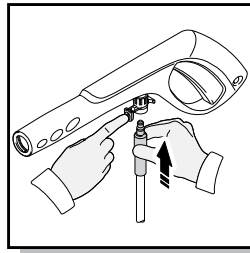

Fig. 6
- Connect the other end of the high pressure hose to the spray gun by inserting the brass metal tip of the high pressure hose into the fitting just ahead of the trigger guard. It will lock into the spray gun with a "click" (Fig. 6). Confirm the hose is locked into the spray gun by pulling slightly on the hose. The hose is now securely attached to the spray gun.